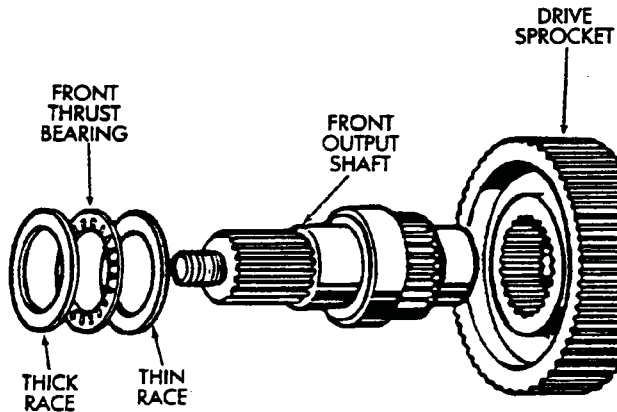

Fig. 4-58 Install Output Shaft Front Thrust Bearing And Races
55. Install front output shaft front thrust bearing and races (Fig. 4-58). Install thick race in front case. Then install thin race and bearing on front shaft. Use petroleum jelly to hold parts in place.